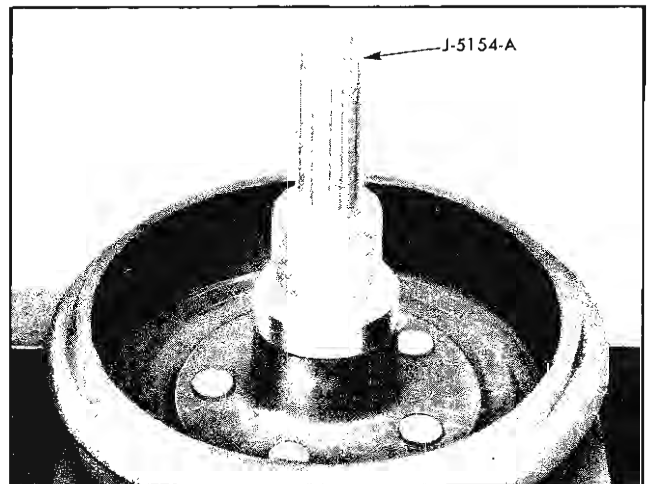

Fig. 3-16 Installing Inner Bearing Seal
2. Place inner bearing in hub, and install a new inner bearing seal assembly with Tool J-5154-A (Fig. 3-16). Side of seal with ridge should be down as installed, or away from center of the vehicle. Apply light coat of wheel bearing grease to inner diameter of seal which contacts spindle.